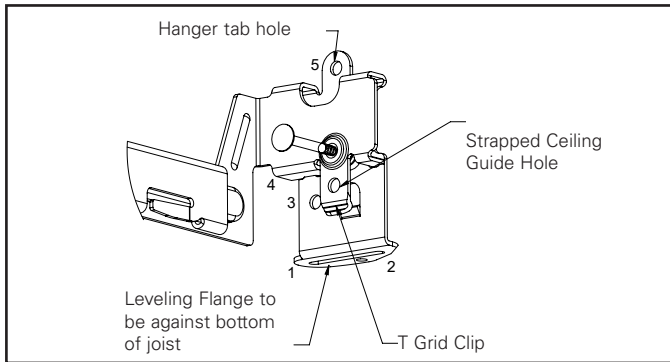

Figure 2.
1. Extend bar hangers to fit between joists. Position fixture by hammering nails into joists. Hanger bar flange should be against bottom of joist (Figure 2)
1. Use leveling flange (Figure 2) to position housing on bottom of strapping (strapping must be 12" [30.5 cm] to 24" [61 cm] apart).
2. Use slot or hole in leveling flange (Figure 2) to secure the bar hanger bracket to the strapping with nails or screw (not included).